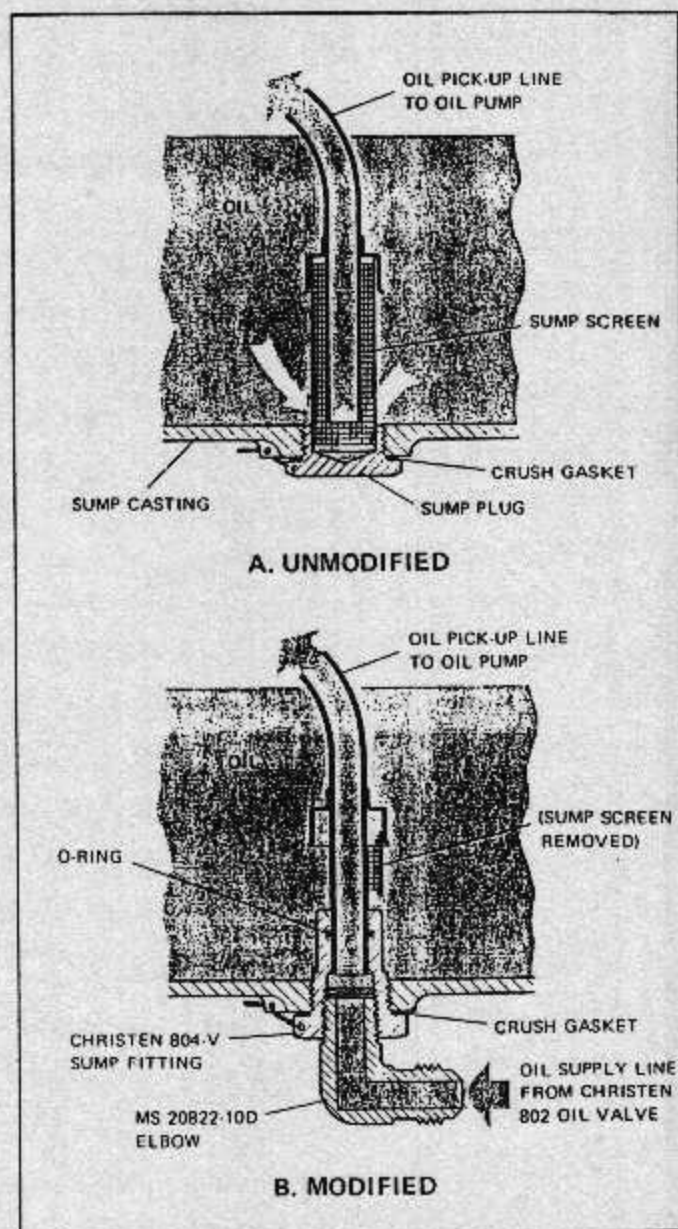

Figure 2-11. Installation of Christen 804-V Sump Fitting
9. For vertical-screen sump engines (Class 1), refer to Figure 2-11, and install the Christen 804-V Sump Fitting as follows: